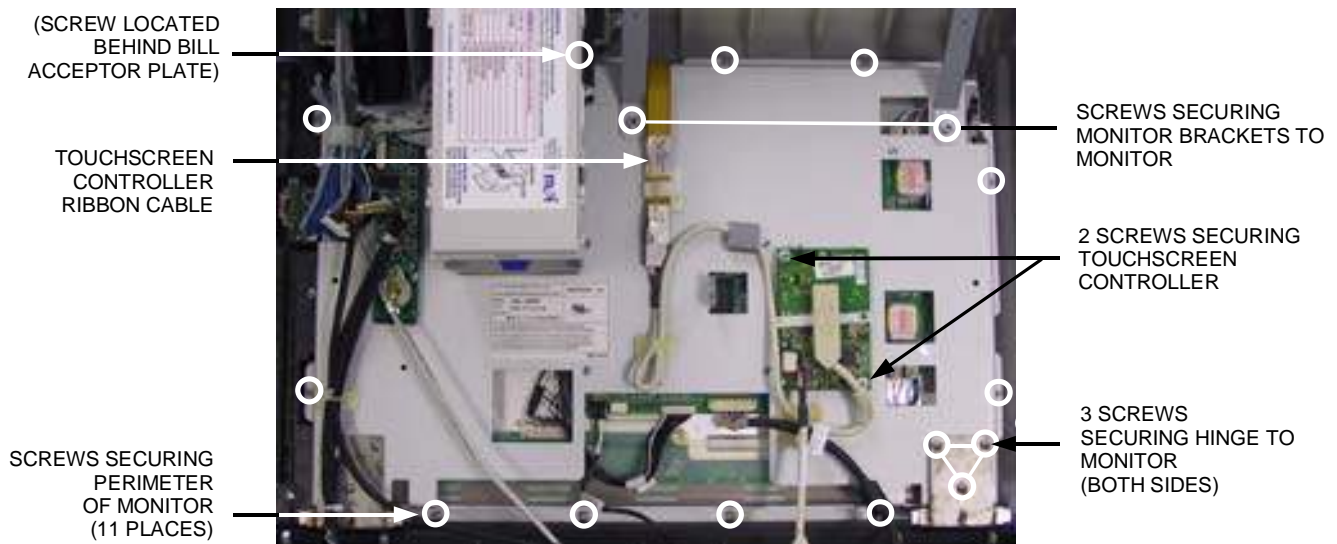

FIGURE 4 - SCREW LOCATION ON REAR OF MONITOR
6. Remove the 2 screws securing the touchscreen controller to the rear of the monitor assembly (see Figure 4), then move the touchscreen controller out of the way for the moment.
7. Remove the screws securing the monitor brackets to the rear of the monitor assembly, then remove the 11 screws that secure the perimeter of the monitor (see Figure 4). Remove the monitor from the bezel.
8. If you are replacing the monitor: Remove the 3 screws securing each hinge to the bottom of the monitor (see Figure 4).
1. *If you are replacing the touchscreen:* Place the new touchscreen into the monitor bezel with the touchscreen controller ribbon positioned at the top of the bezel (see Figure 4). The touchscreen should rest flush against the foam on the inside of the bezel, and the tape on the new touchscreen should be positioned away from the bezel. **NOTE: Do NOT remove the backing from the tape on the touchscreen.** Replace the monitor on top of the touchscreen with the same orientation it had before you removed it from the system (see Figure 4). Be sure to wrap the touchscreen controller ribbon over the top of the monitor as shown in Figure 4. Attach the touchscreen controller cable connector to the touchscreen controller (see Figure 1), then secure the touchscreen controller to the back of the monitor using the same 2 screws you removed earlier (see Figure 4).
If you are replacing the monitor: Place the new monitor on top of the touchscreen in the same orientation as the monitor you removed (see Figure 4). **NOTE: Do NOT remove the backing from the tape on the touchscreen.** Be sure that the touchscreen controller ribbon cable coming from the touchscreen is wrapped over the monitor as shown in Figure 4. Secure the touchscreen controller to the back of the monitor using the same two screws you removed earlier (see Figure 4). Reconnect the OSD cable connector to the OSD board, then secure the OSD board to the Velcro on the rear of the new monitor (see Figure 1 for proper location). Attach the bottom hinges to the new monitor using the 6 screws (3 for each hinge) you removed earlier (see Figure 4). You may need to attach the provided wire clamps to the rear of the monitor assembly. If so, note their location on the rear of the monitor you removed, or use Figure 4 as a guide.
2. Resecure the 11 screws around the perimeter of the monitor (see Figure 4), and secure the monitor brackets to the rear of the monitor with the 2 screws you removed earlier (see Figure 4).